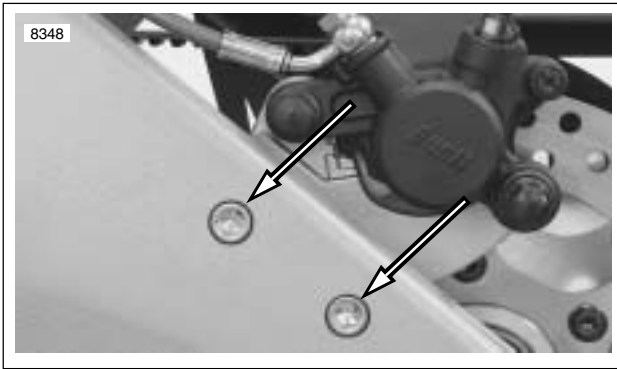

Figure 2-26. Rear Brake Caliper Carrier Fasteners
9. See Figure 2-26. Install caliper carrier and tighten fastener to 24-26 ft-lbs (32-35 Nm). See 2.15 REAR BRAKE CALIPER.